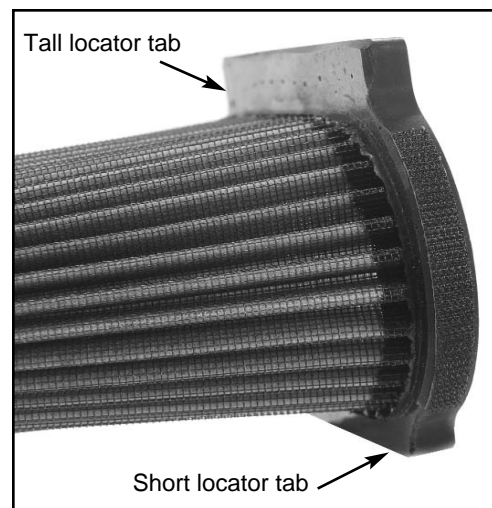

Fig. 2
**Note:** The short locator tab will go into the groove in the air box base. (Fig. 2)